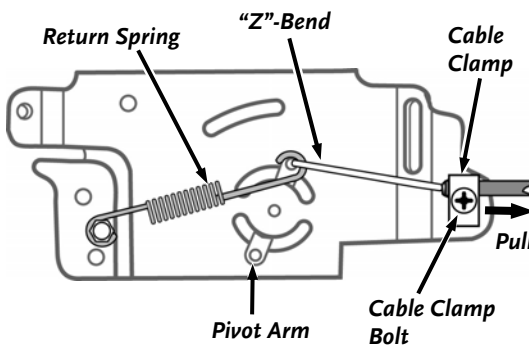

Figure 10
3. Loop the end of the Return Spring over the "Z"-Bend of the Throttle Cable (**Figure 10**).